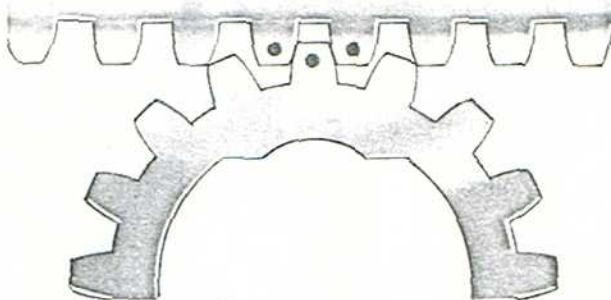

Fig. 18 - Location Of Timing Marks On Injector Rack And Gear
2. Apply rack gear to mesh with the rack so timing mark on the one gear tooth is between the marked teeth of the rack. Timing markings should be facing the assembler when looking down at the parts from the thread end of the body, as shown in Fig. 18. The use of a flashlight or illuminated magnifying glass #8201455 greatly facilitates this timing of rack and gear as otherwise it is difficult to see the markings.